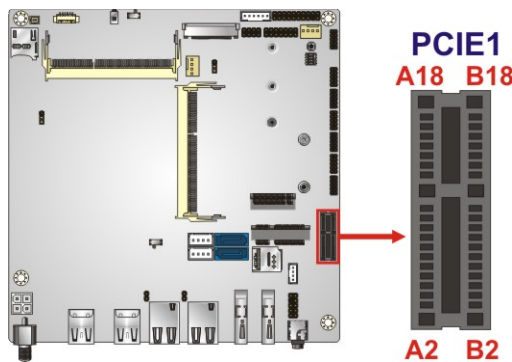

Figure 3-14: PCIe x1 Slot Location
- CN Location:** See Figure 3-14